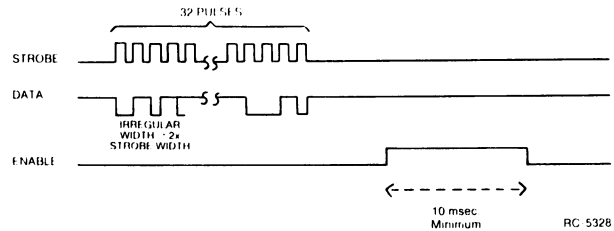

Figure 2 - STROBE, DATA and ENABLE Signals
- g. Verify that the STROBE, DATA and ENABLE Signals coming from the Control Unit are at the proper level and the proper duration (refer to Figure 2).